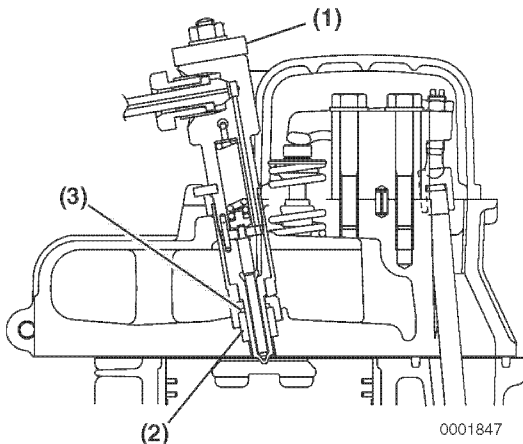

Figure 7-36
1. Install a new nozzle spacer (**Figure 7-36, (3)**) and gasket (**Figure 7-36, (2)**) on the fuel injector.
3. Install the injector retainer plate (**Figure 7-36, (1)**) and tighten the nuts to specification. See *Special Torque Specifications* on page 7-4.